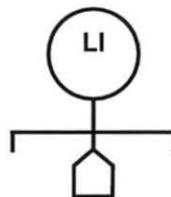

Figure 40. Level Sensing Element Symbol
4. Determine what type of level sensing element symbol is shown in figure 40.